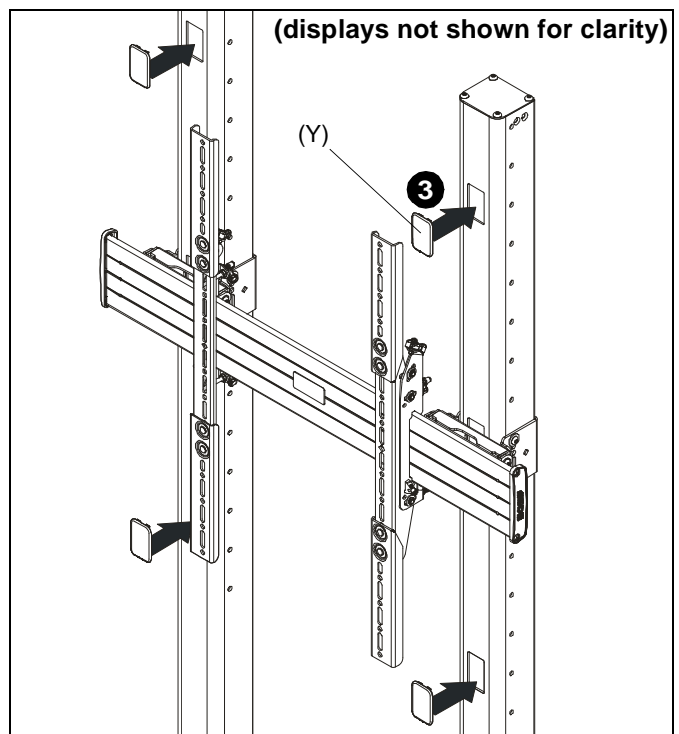

Figure 16
3. For any cable management holes that are not used, snap covers (Y) may be used to cover holes as desired. (See Figure 16)